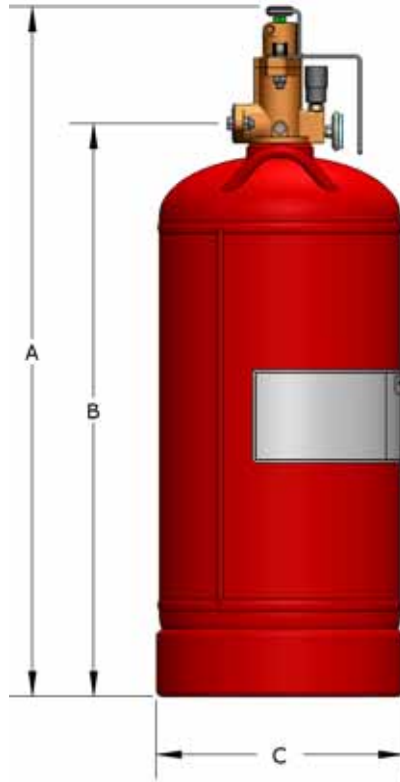
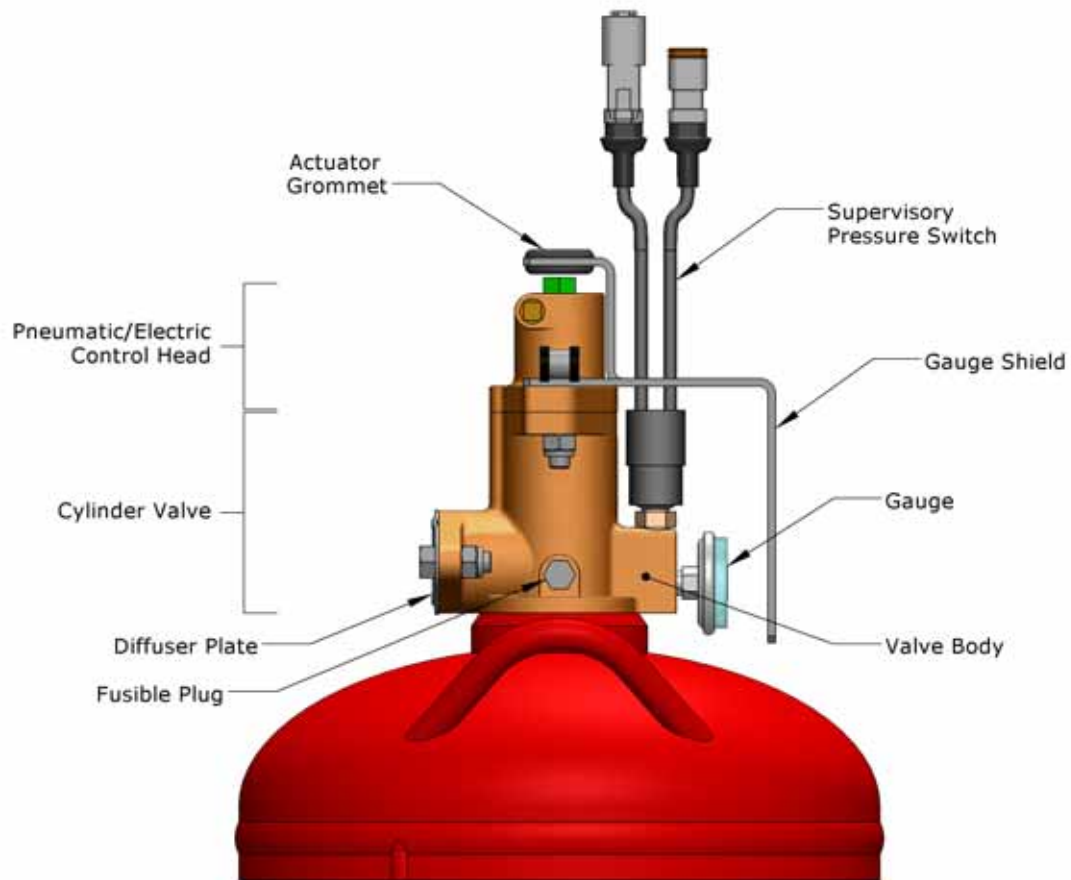

Figure 2-1. Sentinel DCS Cylinder and Valve Assembly
Figure 2-2. Sentinel DCS Valve Assembly Components
Each Sentinel DCS cylinder assembly includes a painted steel cylinder charged with ABC Dry Chemical, a nickel-plated valve, a siphon tube, a nickel-plated pneumatic/electric control head, and a diffuser plate, as shown in Figure 2-1 and Figure 2-2. A pressurized dry chemical cylinder is supplied as a unit and is attached to the vehicle with a mounting bracket or deck mount flange. All cylinders meet U.S. Department of Transportation (DOT) and Transport Canada (TC) specifications.
The total height, height to center of discharge port, and diameter of the cylinders are shown as A, B and C in Figure 2-1 and listed in Table 2-1.
The pneumatic/electric control head is mounted on top of the valve body, and the nickel-plated valve is equipped with a diffuser plate, fusible plug, 360 psi pressure gauge, gauge shield, actuator shield, and (an optional) supervisory pressure switch (see Figure 2-2).